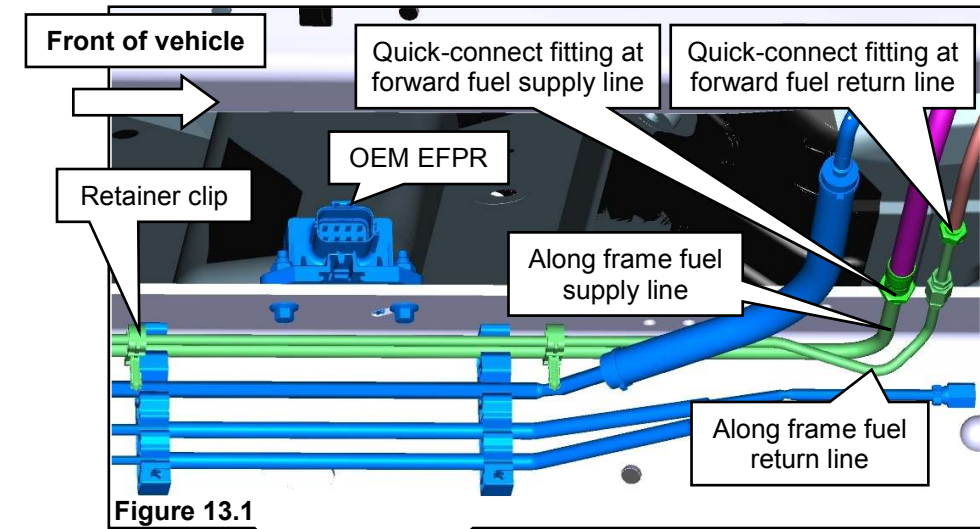

Figure 13.1
1. Install the along frame fuel supply line from the forward fuel supply line into the top slot of the OEM retention clips on the frame rail. **Note:** The along frame fuel supply line should pass behind the EFPR. **Figure 13.1.**
2. Connect the along frame fuel supply line into the quick-connect fitting of the forward fuel supply line. **Figure 13.1.**